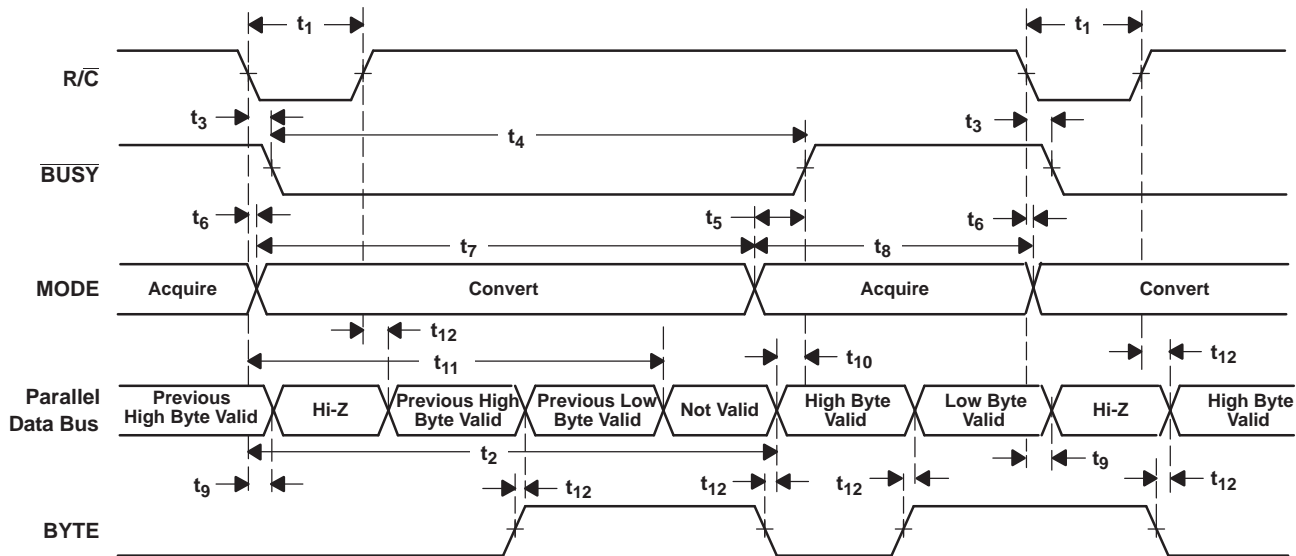
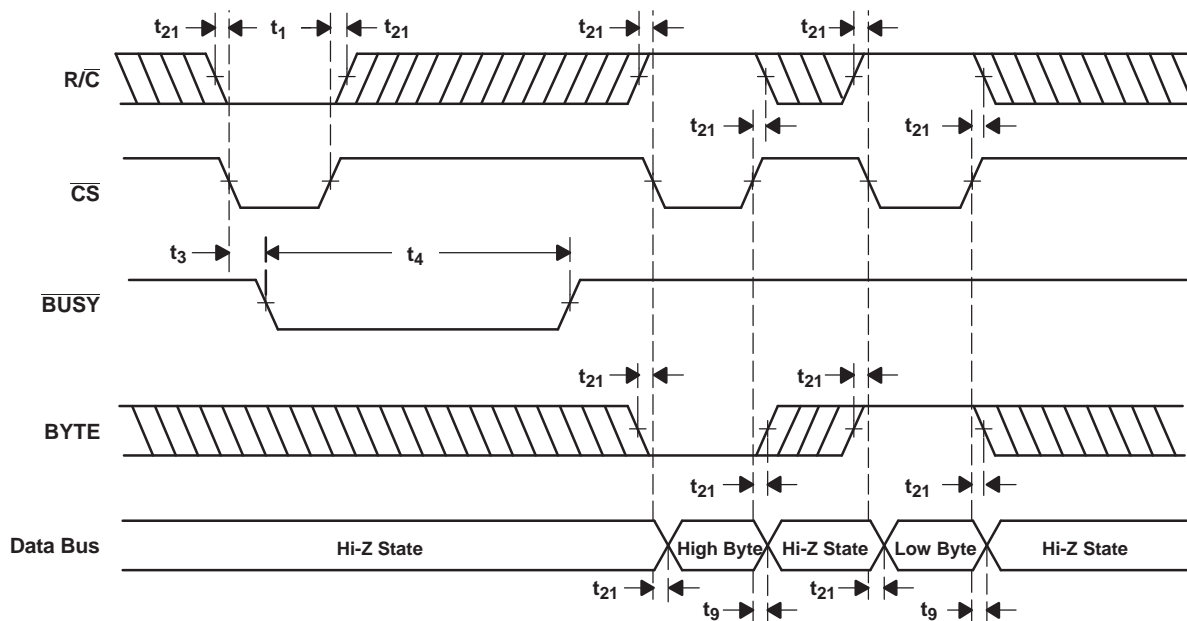

Figure 33. Conversion Timing With Parallel Output ( $\overline{\text{CS}}$  and  $\text{DATACLK}$  Tied Low,  $\overline{\text{EXT/INT}}$  Tied High)
Figure 34.  $\overline{CS}$  to Control Conversion and Read Timing With Parallel Outputs
The ADS8507 begins tracking the input signal at the end of the conversion. Allowing 25 μs between convert commands assures accurate acquisition of a new signal. Refer to Table 2 and Table 3 for a summary of  $\overline{CS}$ ,  $R/\overline{C}$ , and  $\overline{BUSY}$  states, and Figure 33, Figure 34, Figure 35, Figure 36, Figure 37, Figure 38, and Figure 39 for timing diagrams.
(1) See Figure 33 and Figure 34 for constraints on data valid from conversion *N*–1.
After conversion  $N$  is completed and the output registers have been updated,  $\overline{\text{BUSY}}$  (pin 24) goes high. Valid data from conversion  $N$  is available on D7-D0 (pin 9-13 and 15-17).  $\overline{\text{BUSY}}$  going high can be used to latch the data. Refer to Table 5 and Figure 33 and Figure 34 for timing specifications.
After conversion  $N$  has been initiated, valid data from conversion  $N-1$  can be read and is valid up to  $12\ \mu\text{s}$  after the start of conversion  $N$ . Do not attempt to read data beyond  $12\ \mu\text{s}$  after the start of conversion  $N$  until  $\overline{BUSY}$  (pin 24) goes high; this may result in reading invalid data. Refer to Table 5 and Figure 33 and Figure 34 for timing constraints.